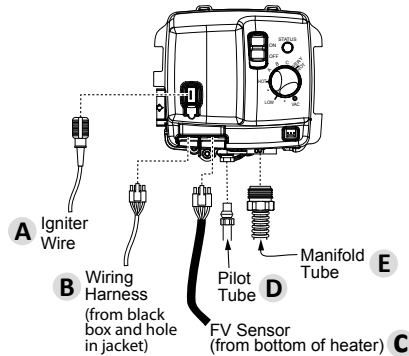

Figure 46 - Gas valve connections.
- 6 Reconnect the manifold tubing (3/4" wrench), pilot tubing (7/16" wrench) to the gas control valve/thermostat. Also reconnect the FV sensor wires, wiring harness, and igniter wire. (See Figure 46 for the correct position of each connection.) Do not cross-thread or apply any thread sealant to the fittings.